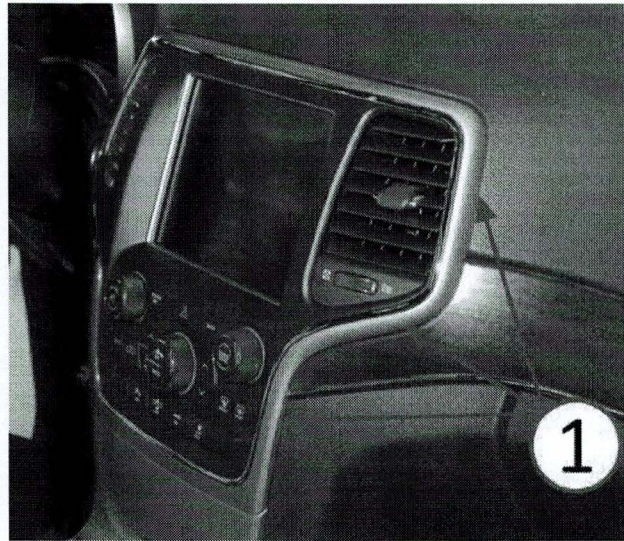

***Fig. 14 ICS Bezel Installation***
19. Using both hands firmly push on the perimeter of the ICS bezel to fully engage the attachment clips (Fig. 14).